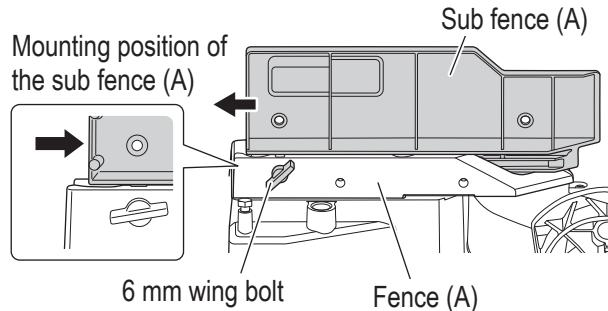

Fig. 12
## 2. Confirmation for use of sub fence (A) (Fig. 12)
In the case of direct angle cutting and left bevel angle cutting, slide inward to the position where the sub fence (A) hits, and secure it with 6 mm wing bolt. (as shown in Fig. 12)